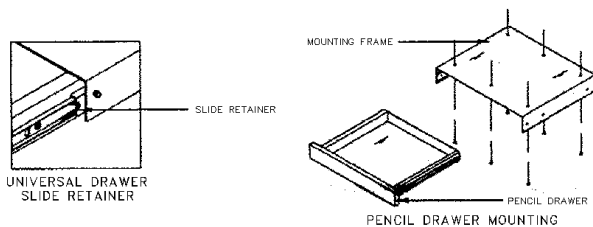

Figure 3-14 UNIVERSAL PENCIL DRAWER MOUNTING
1. Remove the pencil drawer from the mounting frame by depressing the black slide retainers. Refer to Figure 3-14.
3. Drive six (6) #10 x 3/4 flakeboard screws up into wood. Refer to Figure 3-14